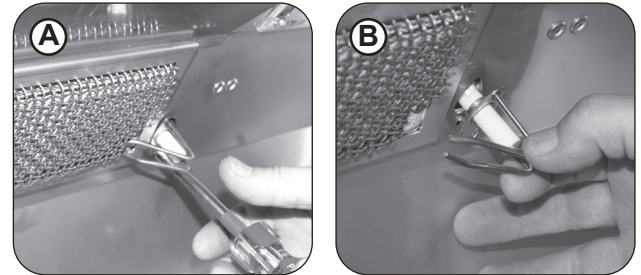

Fig. 34-2 Remove electrode
1. Remove the backburner electrode mounting screw ($\frac{1}{4}$ " hex) (see Fig. 34-2, A) and loosen the electrode. Carefully pull the electrode assembly slightly from the grill wall to give enough clearance for the backburner to be removed (see Fig. 34-2, B).